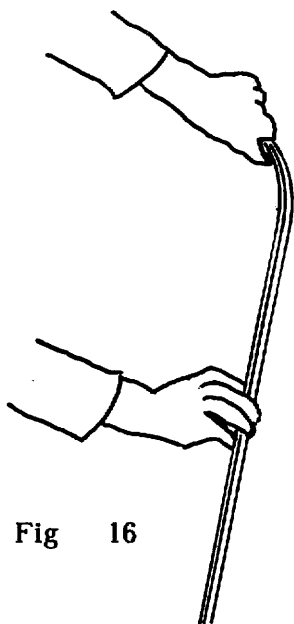
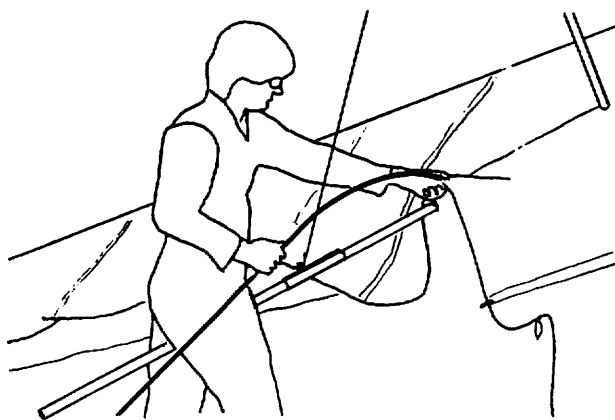

Fig 16
Fig 17
10) Remove the battens from the bag, lay them on the ground, and check them for symmetry, side to side. (Fig 16) Correct any that are assymetric. (See the tuning and maintenance sections of this manual for more information on batten shaping.) Separate the right side battens (those with black tips) from the left side battens (white). Insert the top surface battens into the sail. Order of battens is longest to shortest from the root out to the tip. Wills Wing numbers battens from the tip inboard, so that the shortest batten (which is the straight plug on batten), is the number one batten, and the longest batten is the #8 batten. When inserting the number 8 battens, you should lift the rear end of the keel and hold it up so that the batten slides in more easily without the rear end scraping the ground. (Fig 17)